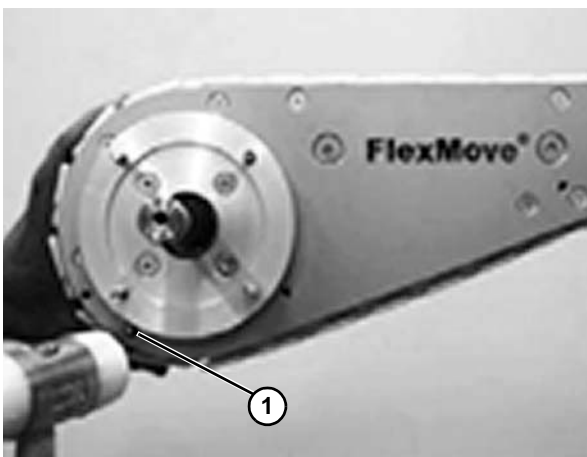

Figure 54
4. Tension the chain and remove links if necessary, so that the chain will exhibit some slack at the drive unit. Put in the stainless steel pin (**Figure 54, item 1**) at the hole provided at drive unit and join the chain.